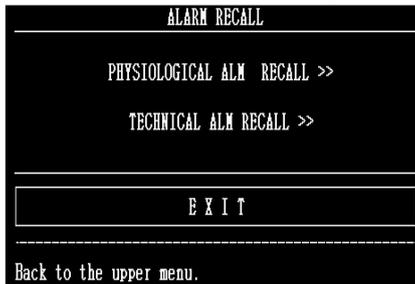

Figure 3.18 Alarm Recall
1) Revolving the knob key to enter **Alarm Recall**, the diagram is showed as **Figure 3.18**